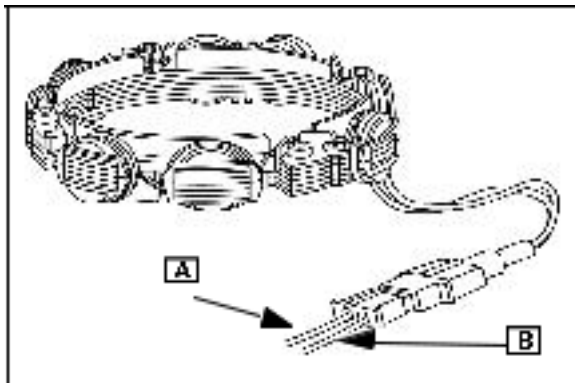

Fig. 26
This alternator uses a polarized plug with two pins. The RED lead (A) charges the battery, the WHITE lead (B) Fig. 26) is for lights.